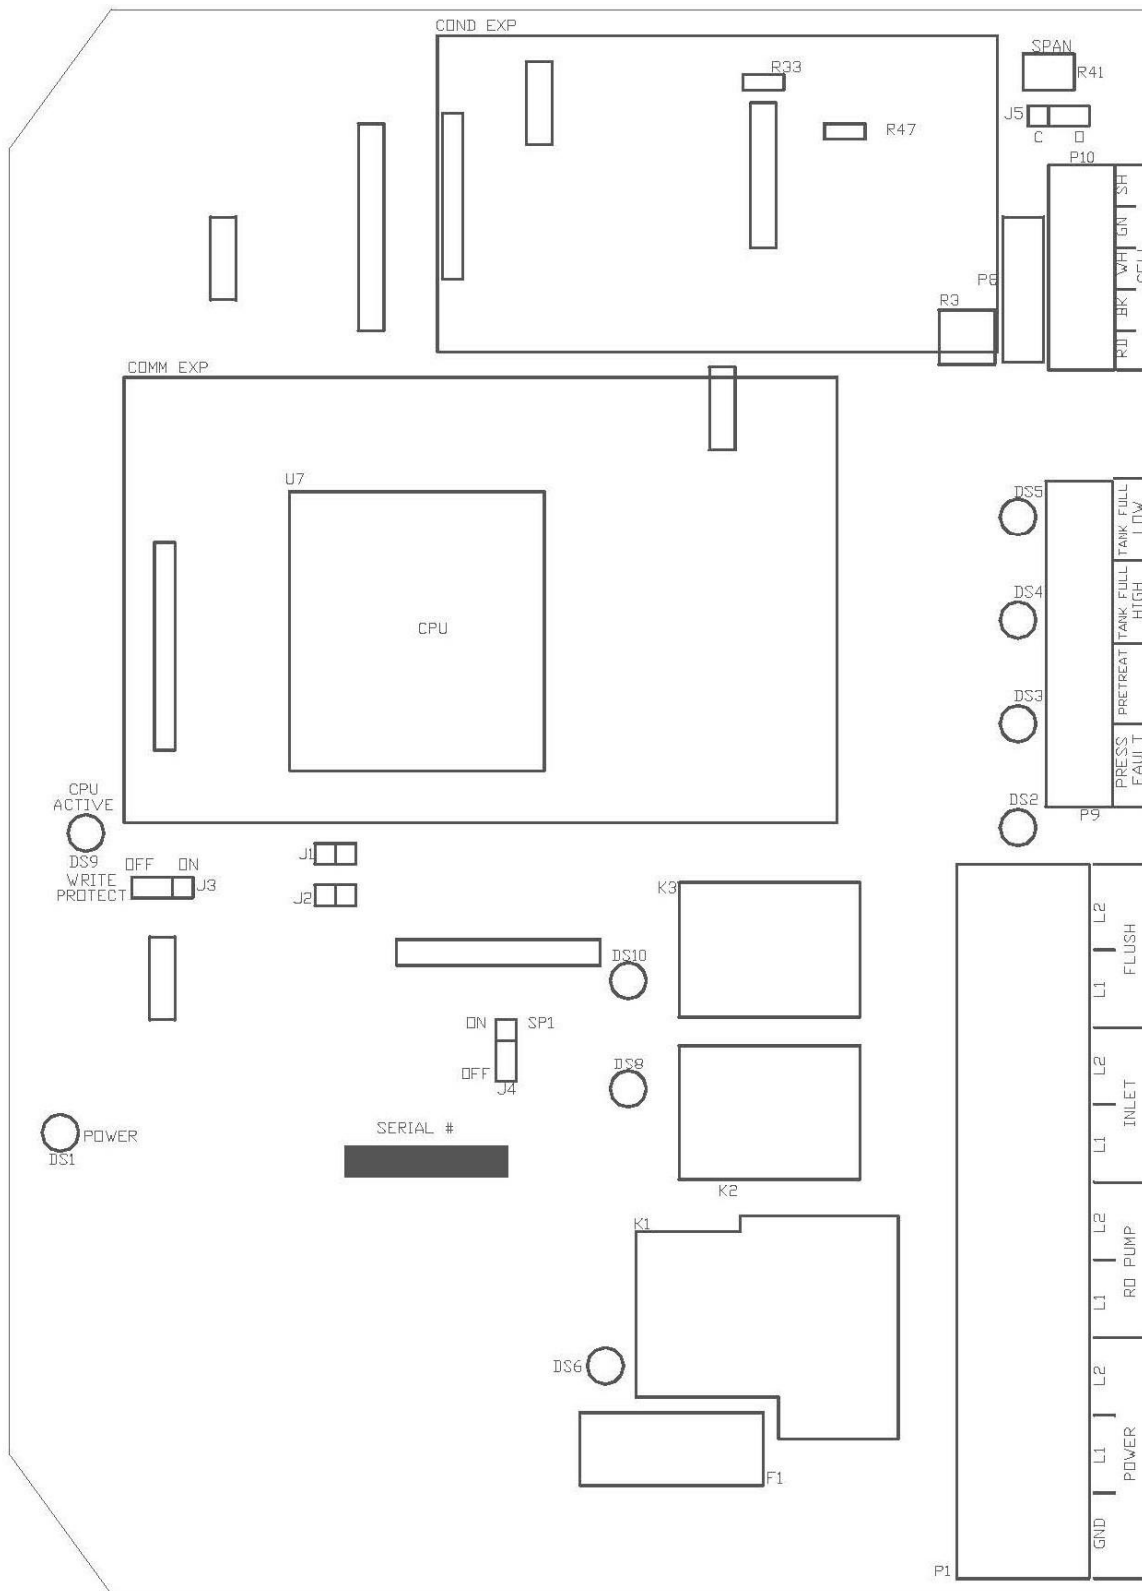
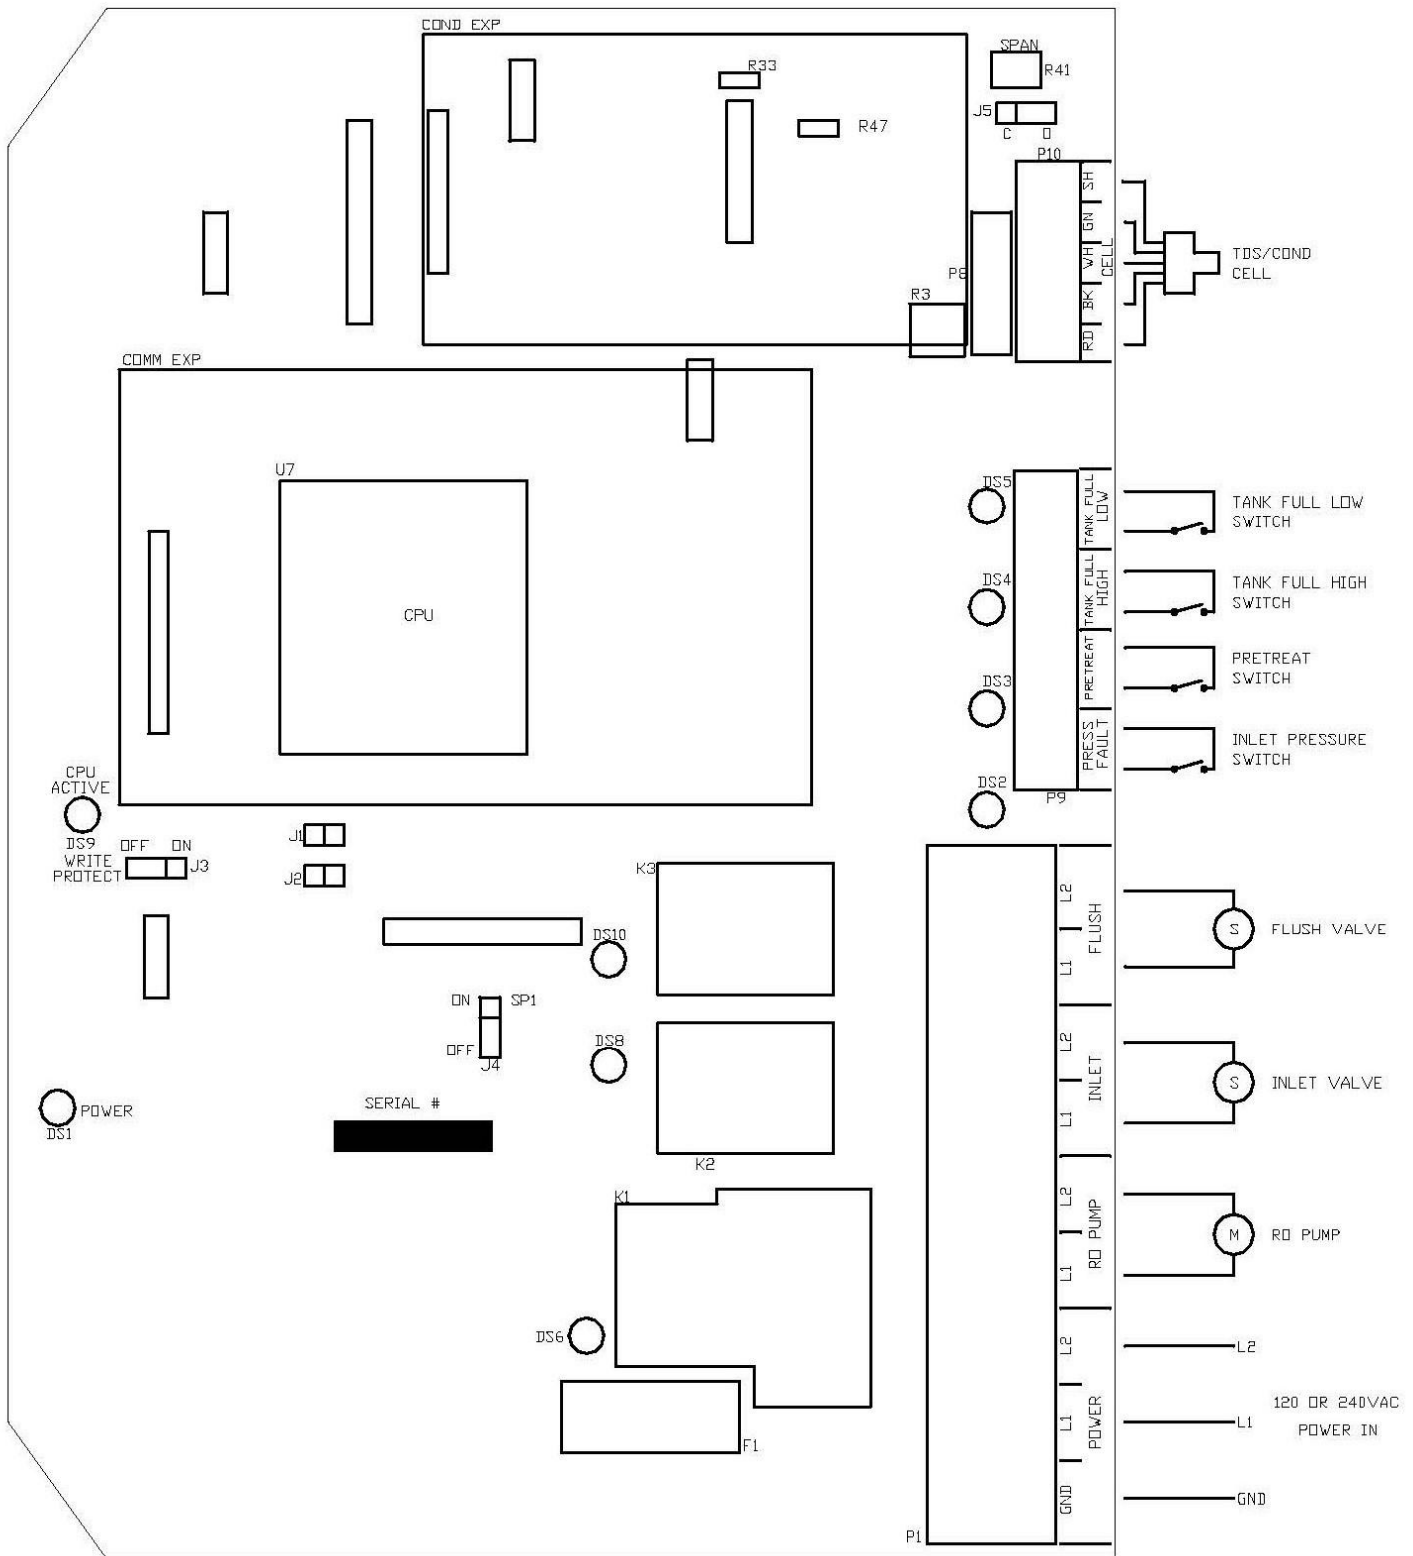

Figure 2
Figure 3
Refer to Figure 2 for the location of all terminal strips and connectors. Figure 2 also shows all jumper and adjustment locations. Figure 3 shows a sample wiring diagram.
Refer to Figure 2 and Figure 3 for the terminal strip locations. AC power for the unit is connected to terminal strip P1. Connect the ground wire of the AC power to the terminal labeled GND. For AC power with a neutral and hot wire, the hot wire connects to L1 and the neutral wire connects to L2. For AC power with two hot wires, either wire can connect to L1 and L2. On AC power with two hot wires, the wire jumper between P6 and P7 should be removed and a fuse (GMA 1/4A) installed in F2.
1. Refer to Figure 1 for the location of the keys used to display or change the Setpoints and Figure 2 for the location of the write protect jumper, J3. For the unit to be able to accept a change in a Setpoint, the shorting jumper must be in the off position (center and left pins).